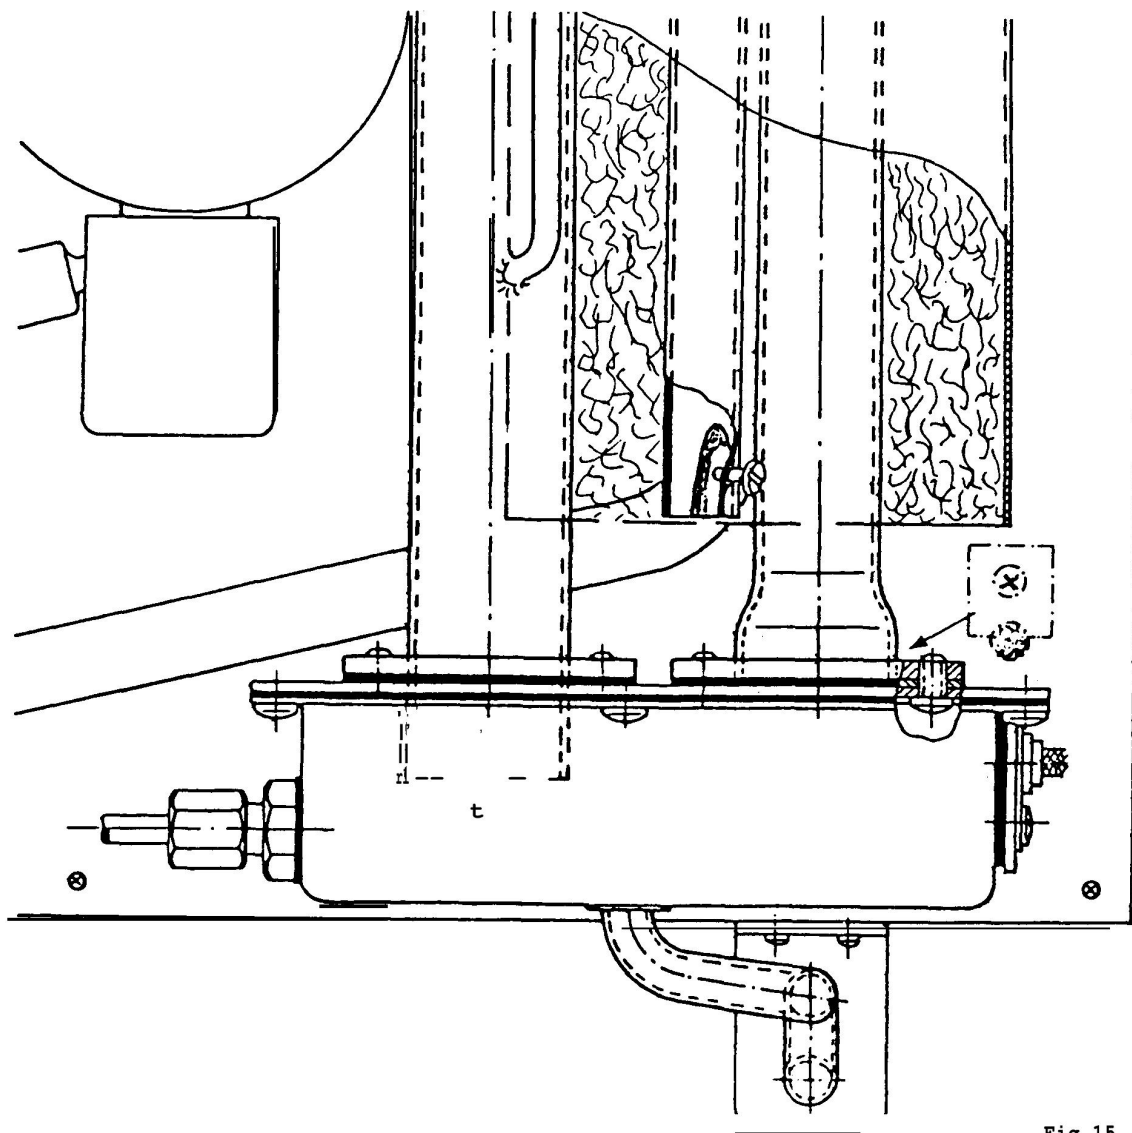

Fig. 15
9. Unscrew six screws (A, Fig.15) from the bottom part of gas burner and two screws from support bracket (B, Fig.15) of the drainage tube (C, Fig.15).
10. Take off bottom part of burner with thermocouple, gas pipe and spark ignitor with cable from upper part of burner (D, Fig.15) by withdrawing to the right side .
11. Unscrew upper part of gas burner (D, Fig.15) with air inlet pipe (E, Fig.15) from the gas heating pipe (F, Fig.15) (2 screws G, Fig. 15).
12. Unscrew locking plate from pilot sight peep (H, Fig.15).
13. Unscrew eight screws (I, Fig. 15) from the cooling unit attachment panel 'and take cooling unit out of the cabinet.